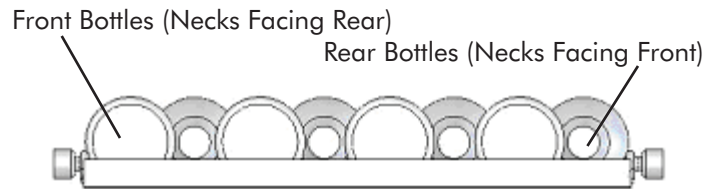
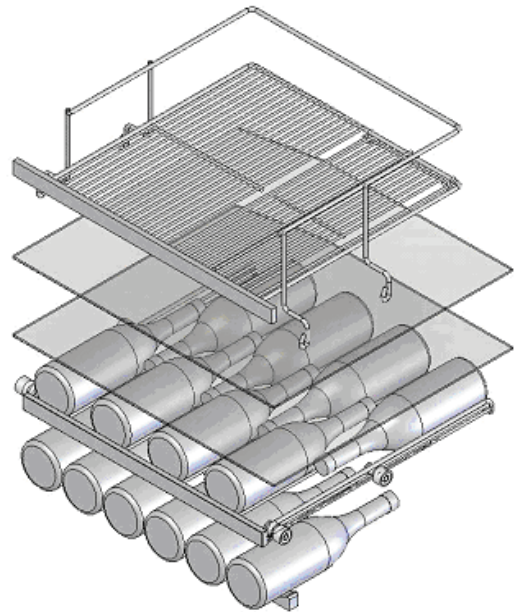

Figure 7
Figure 8
The wine rack pull-out shelf holds eight (8) bottles. See Figure 7 for typical wine bottle orientation. The wine rack can be located at the middle or bottom part of the interior cabinet. For red wines, place wine shelf at bottom shelf position in the cabinet. Then put a glass shelf in the next higher position. For white and sparkling wines, put the wine shelf on the middle shelf position in the cabinet. Place the remaining shelves as desired (see Figure 8). Also, there is a fixed, wooden, bottle cradle in the bottom, step section of the cabinet. Six (6) bottles may be stored there.